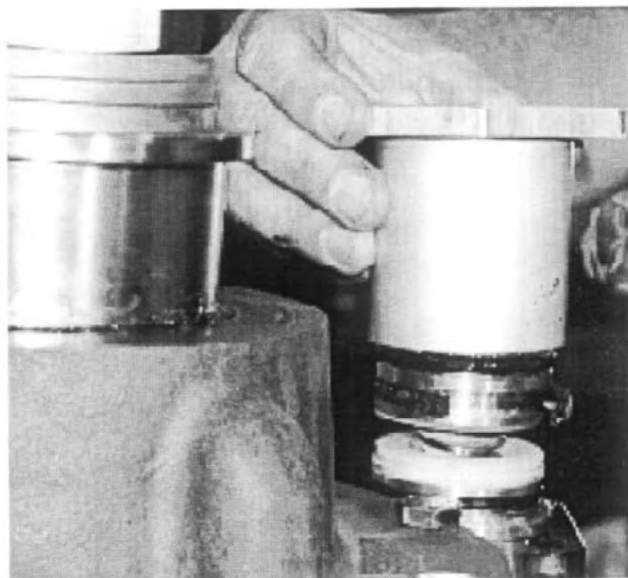

Fig. 12
14. Remove the front declutch air cylinder, disassembling piston, spring and stops. *See Figs. 12 & 13.*